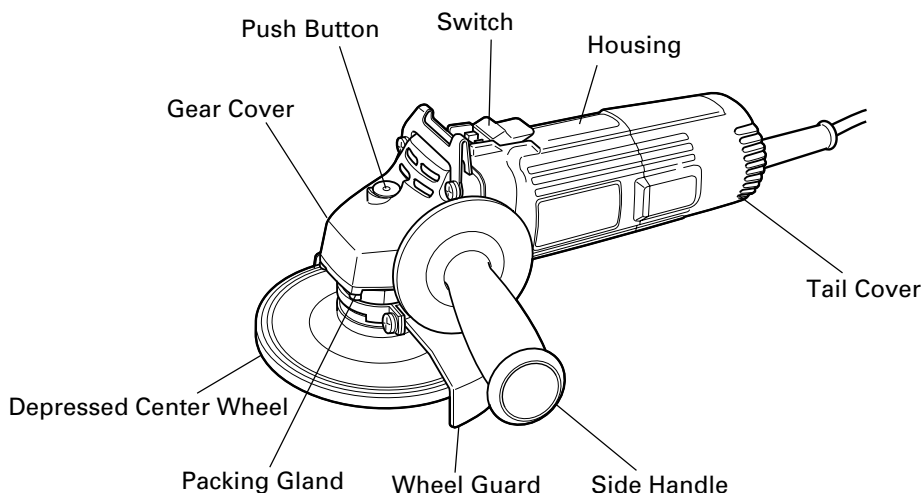

Fig.1
1. Hold the grinder firmly by its housing and side handle (Fig. 1).